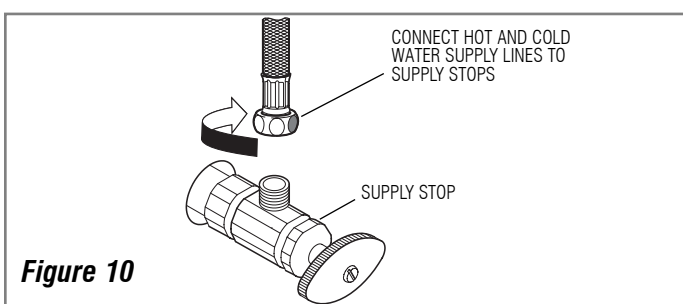

Figure 10
Step 8 — Connect Water Supply Lines (Figure 10)